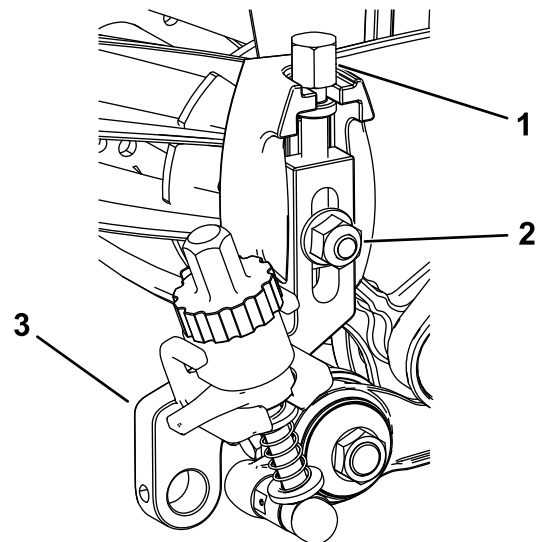

Figure 21
1. Thread the previously removed height-of-cut adjusting screws into the top of the height-of-cut assemblies (Figure 21).
2. Install the height-of-cut assemblies to the cutting unit side plates using the previously removed plow bolt, nut, and special washer (Figure 21).